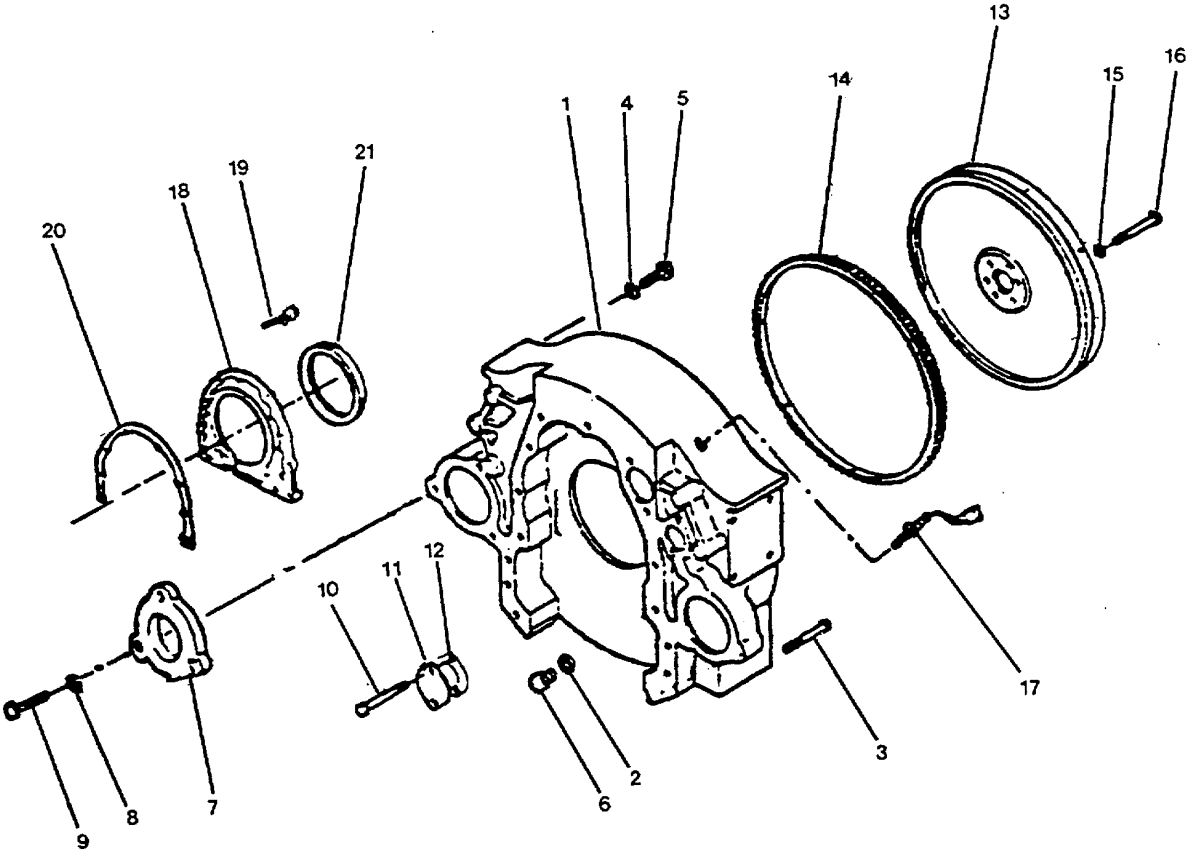

FIGURE 4-38. Flywheel and Housing Group.
- a. Clean the flywheel (13, Figure 4-38) with solvent.